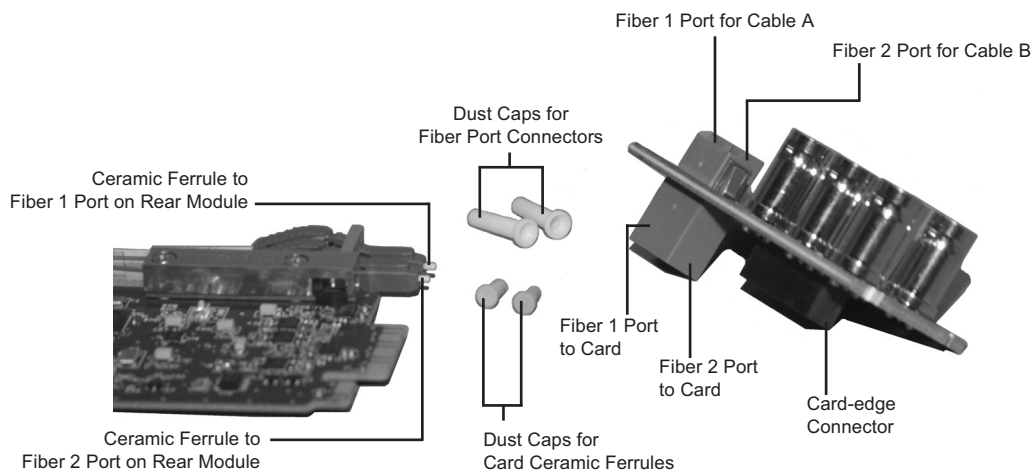

Figure 2.3 Card Connectors with Dust Caps Removed — 8320AR-044 Rear Module Shown
- Refer to **Figure 2.3** for connector location.